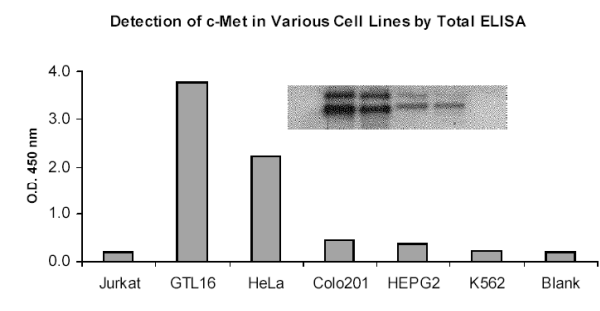

Figure 3
- The data presented in Figure 3 show that the ELISA detects c-Met protein in lysates from human GTL 16, HeLa, Colo 201, HEPG2, Jurkat and K562 cells.